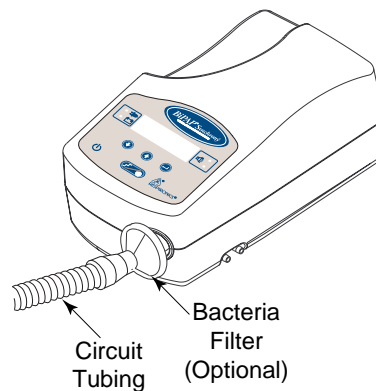

Figure 4-3 *Connect the Tubing to the Outlet*
STEP 1 Connect one end of the circuit tubing to the outlet of the bacteria filter (if using one) and connect the inlet of the bacteria filter to the large connector on the Synchrony as shown in Figure 4-3.